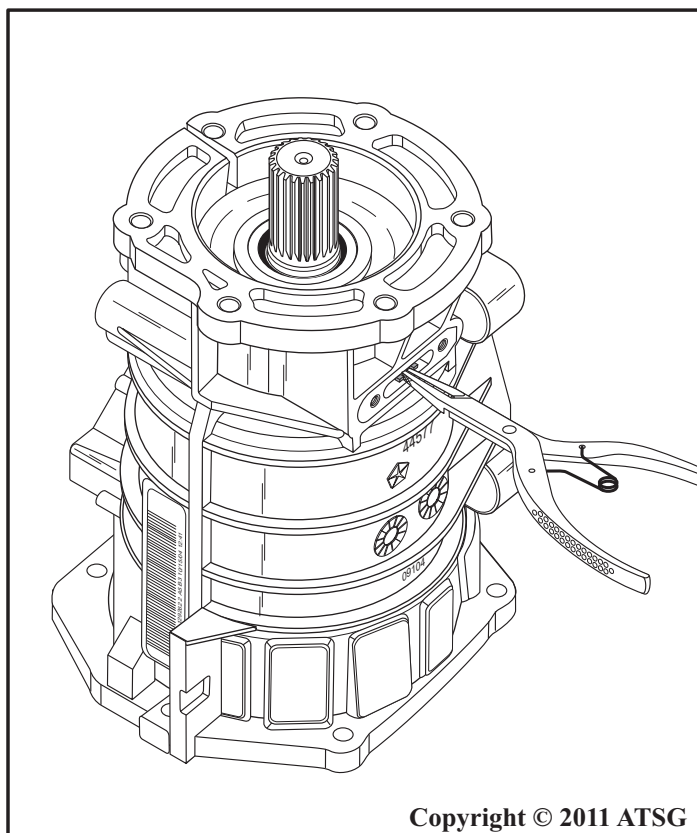

Figure 151
13. Turn the overdrive housing over and release the ball bearing snap ring using snap ring pliers, as shown in Figure 151.